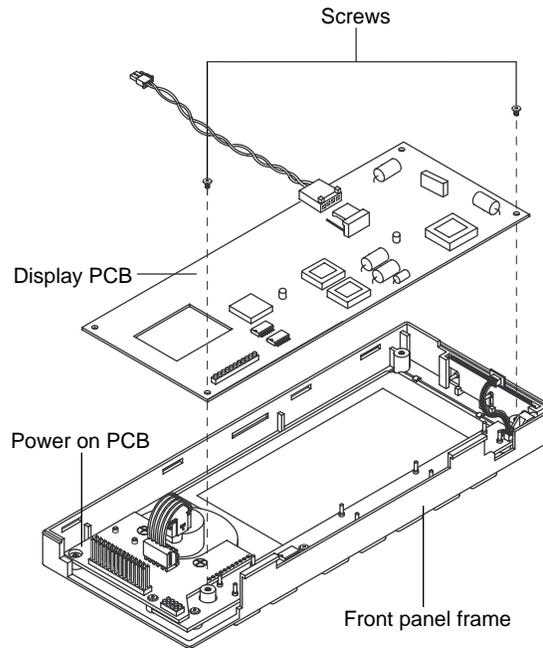

Figure 6-8: Removing Display PCB
3. Remove the two bottom screws securing the display PCB as illustrated in Figure 6-8.